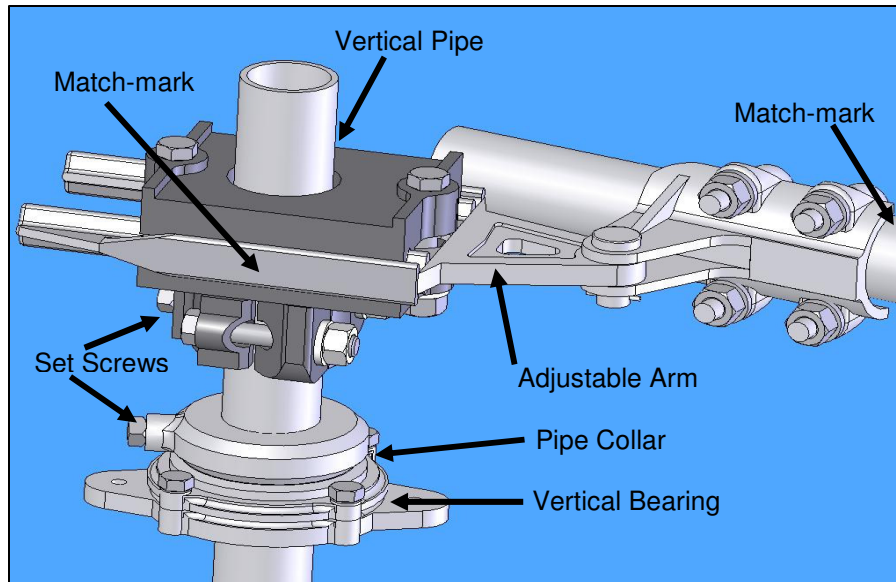
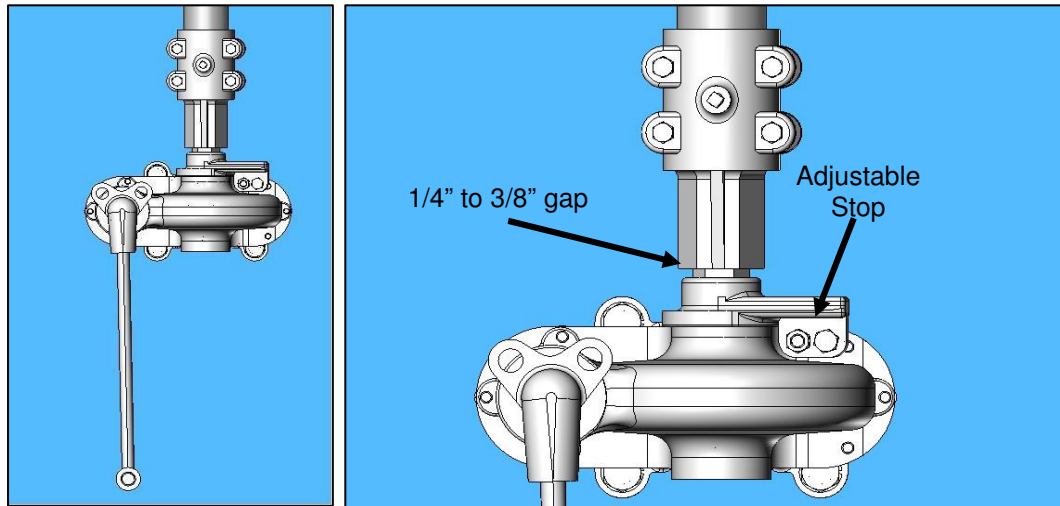

Figure 15: Typical Operating Arrangement
Figure 16: Type HOGO (High Output Geared Operator) Front View
- 5.6. Refer to the Operating Mechanism drawing and install all mounting brackets, bearings, bushings, pipe clevises, switch operating device, adjustable arm, reach rod, and other necessary components. Refer to **Figure 15**. Do not connect the interphase pipe at this time.
- 5.7. **CAUTION:** The pipe collar (above the vertical bearing support) must support the entire weight of the vertical operating pipe. **Do not allow the pipe to rest on the switch operating device.** Refer to **Figure 15** and **Figure 16**.
- 6.2.1.2. When the switch is properly adjusted the operator handle should hang vertically and free in both the open and closed positions to permit the use of a customer supplied padlock. Refer to **Figure 16**.